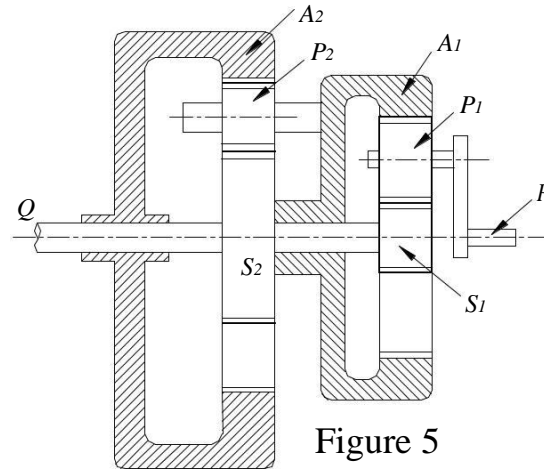

Figure 5
**Problem 5:** Figure 5 shows a compound epicyclic gear train, gears  $S_1$  and  $S_2$  being rigidly attached to the shaft  $Q$ . If the shaft P rotates at 1000 rpm clockwise, while the annular  $A_2$  is driven in counter clockwise direction at 500 rpm, determine the speed and direction of rotation of shaft  $Q$ . The number of teeth in the wheels are  $S_1 = 24$ ;  $S_2 = 40$ ;  $A_1 = 100$ ;  $A_2 = 120$ .